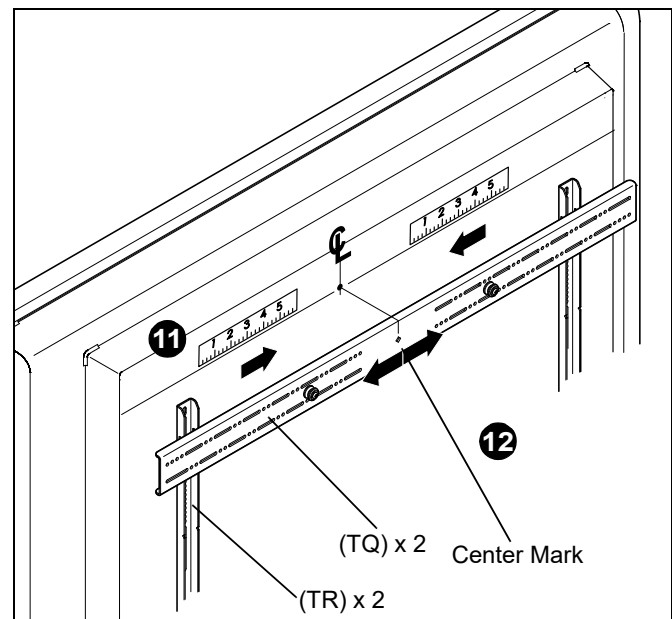
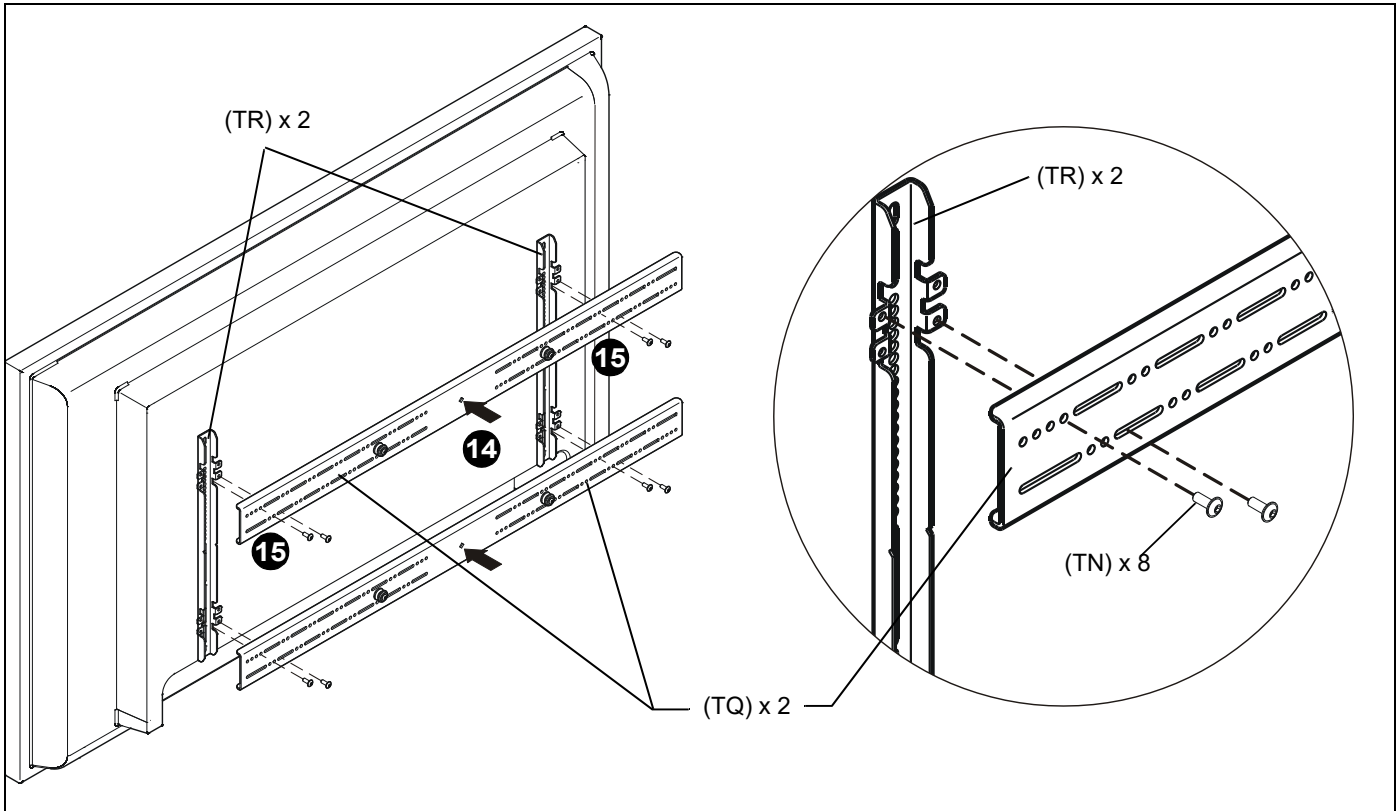

Figure 17
Figure 18
11. Determine and mark the horizontal center position between the Left and Right *TOP* mounting holes in display. (See Figure 17)
12. Determine and mark the horizontal center position between the Left and Right *BOTTOM* mounting holes in display. (See Figure 17)
13. Orient upper horizontal mounting bracket (TQ) so that flanges are facing towards display and resting in recessed area of left and right vertical mounting brackets (TR). (See Figure 17)
14. Adjust Upper horizontal mounting bracket (TQ) position until center diamond in horizontal mounting bracket (TU) aligns with mark made in Step 11, and mounting holes and slots in horizontal mounting bracket (TQ) are aligned with threaded holes in mounting tabs of left and right vertical mounting brackets (TR). (See Figure 17) and (See Figure 18)
15. Use 1/8" hex key (TP) to secure upper horizontal mounting bracket (TQ) to left and right vertical mounting brackets (TR) using four button head flanged screws (TN). (See Figure 18)
16. Repeat Steps 12 through 15 for lower horizontal mounting bracket (TQ).
**IMPORTANT !** : The orientation of, and mounting holes used, when installing the lower horizontal mounting bracket must be the same as the upper horizontal mounting bracket. Vertically align upper and lower brackets by aligning holes or end of slots. (See Figure 18)
**IMPORTANT !** : Whenever possible install mounting screws diagonally as shown in detail in Figure 18.